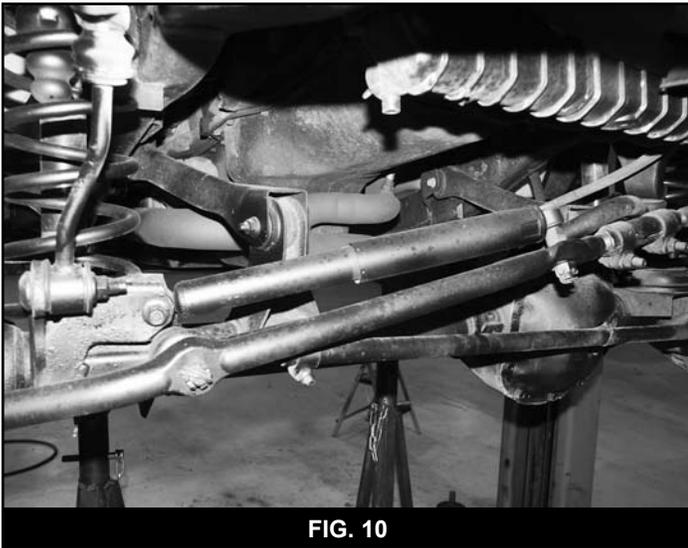

FIG. 10
27. Remove OE steering stabilizer from the axle and drag link (Fig 10). Remove the tapered stud from the drag link with a pickle fork or by striking the drag link near the stud with a hammer to free the taper. Discard the stabilizer and hardware.